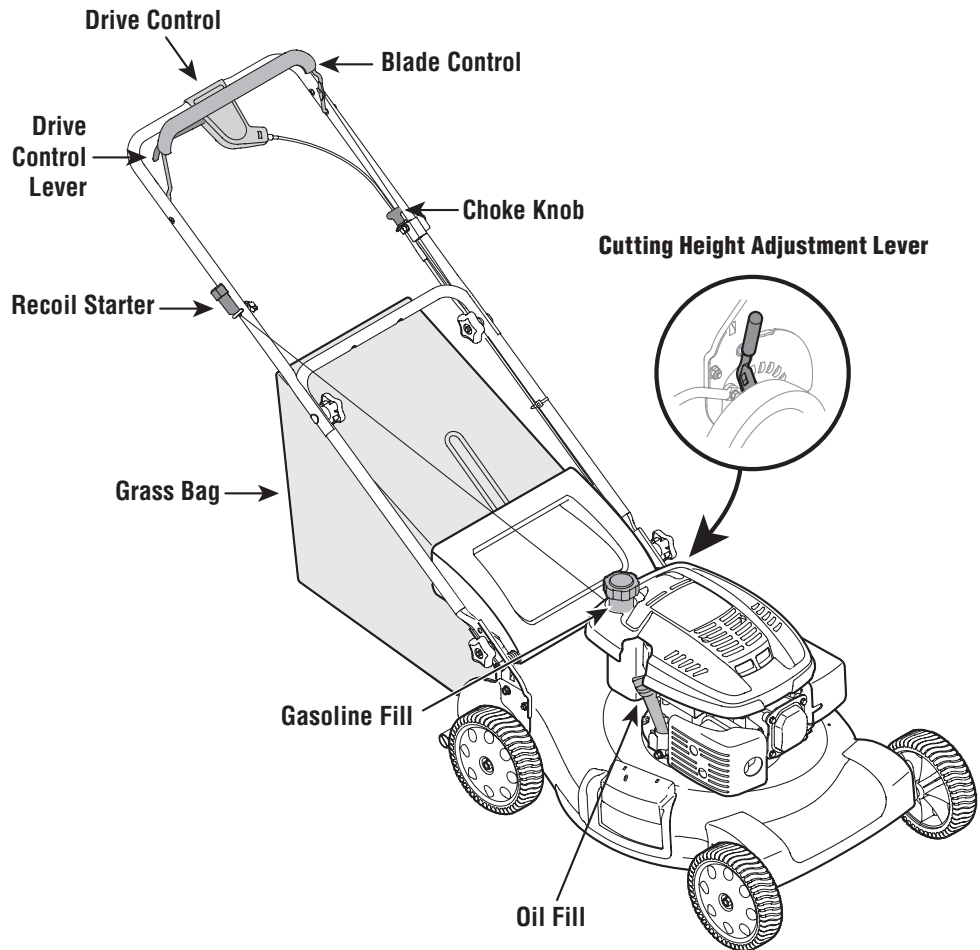

Figure 4-1: The major components on the lawn mower.
1. Check oil level and add oil if necessary, Figure 4-1. Refer to the Engine Operation section for more information.
2. Service the engine with gasoline as instructed in the Engine Operation section. See Figure 4-1 for location of gas fill.